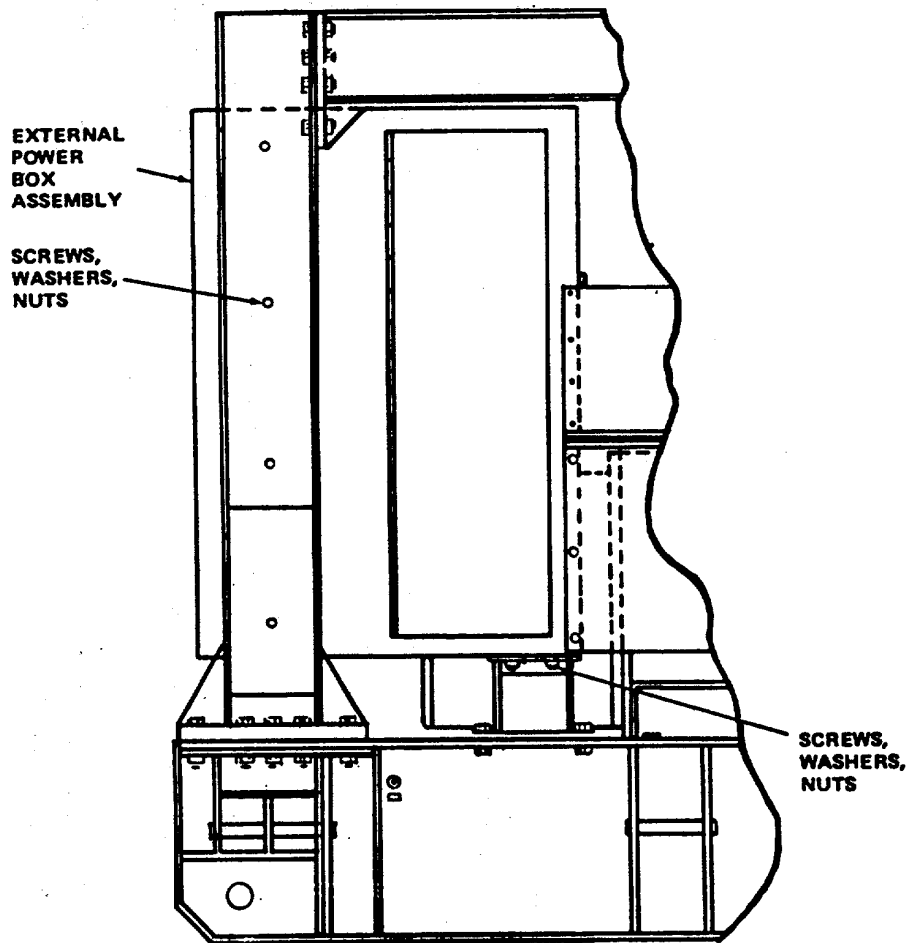

Figure 2-3. External Power Box Assembly, Removal and Installation (Sheet 1 of 2)
- (2) Referring to figure 2-3, remove all screws, washers, and nuts attaching reconnection box and enclosure to the external power box assembly.
- (3) Disconnect and tag all cables from reconnection box, circuit breaker, and cable tiedown at base of external power box assembly.
- (4) Remove cables through sleeves and at front of generator set.
- (5) Disconnect electrical connectors J27 through J31 (and J32, if generator set is equipped with housing).